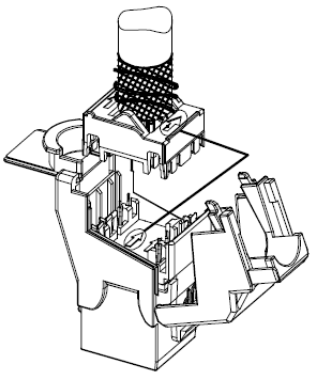

Fig. 11
- 1) Put the cap on the IDC tower. The arrows on the jack and the cap should face the same direction. Put the cap into position (Fig 11)